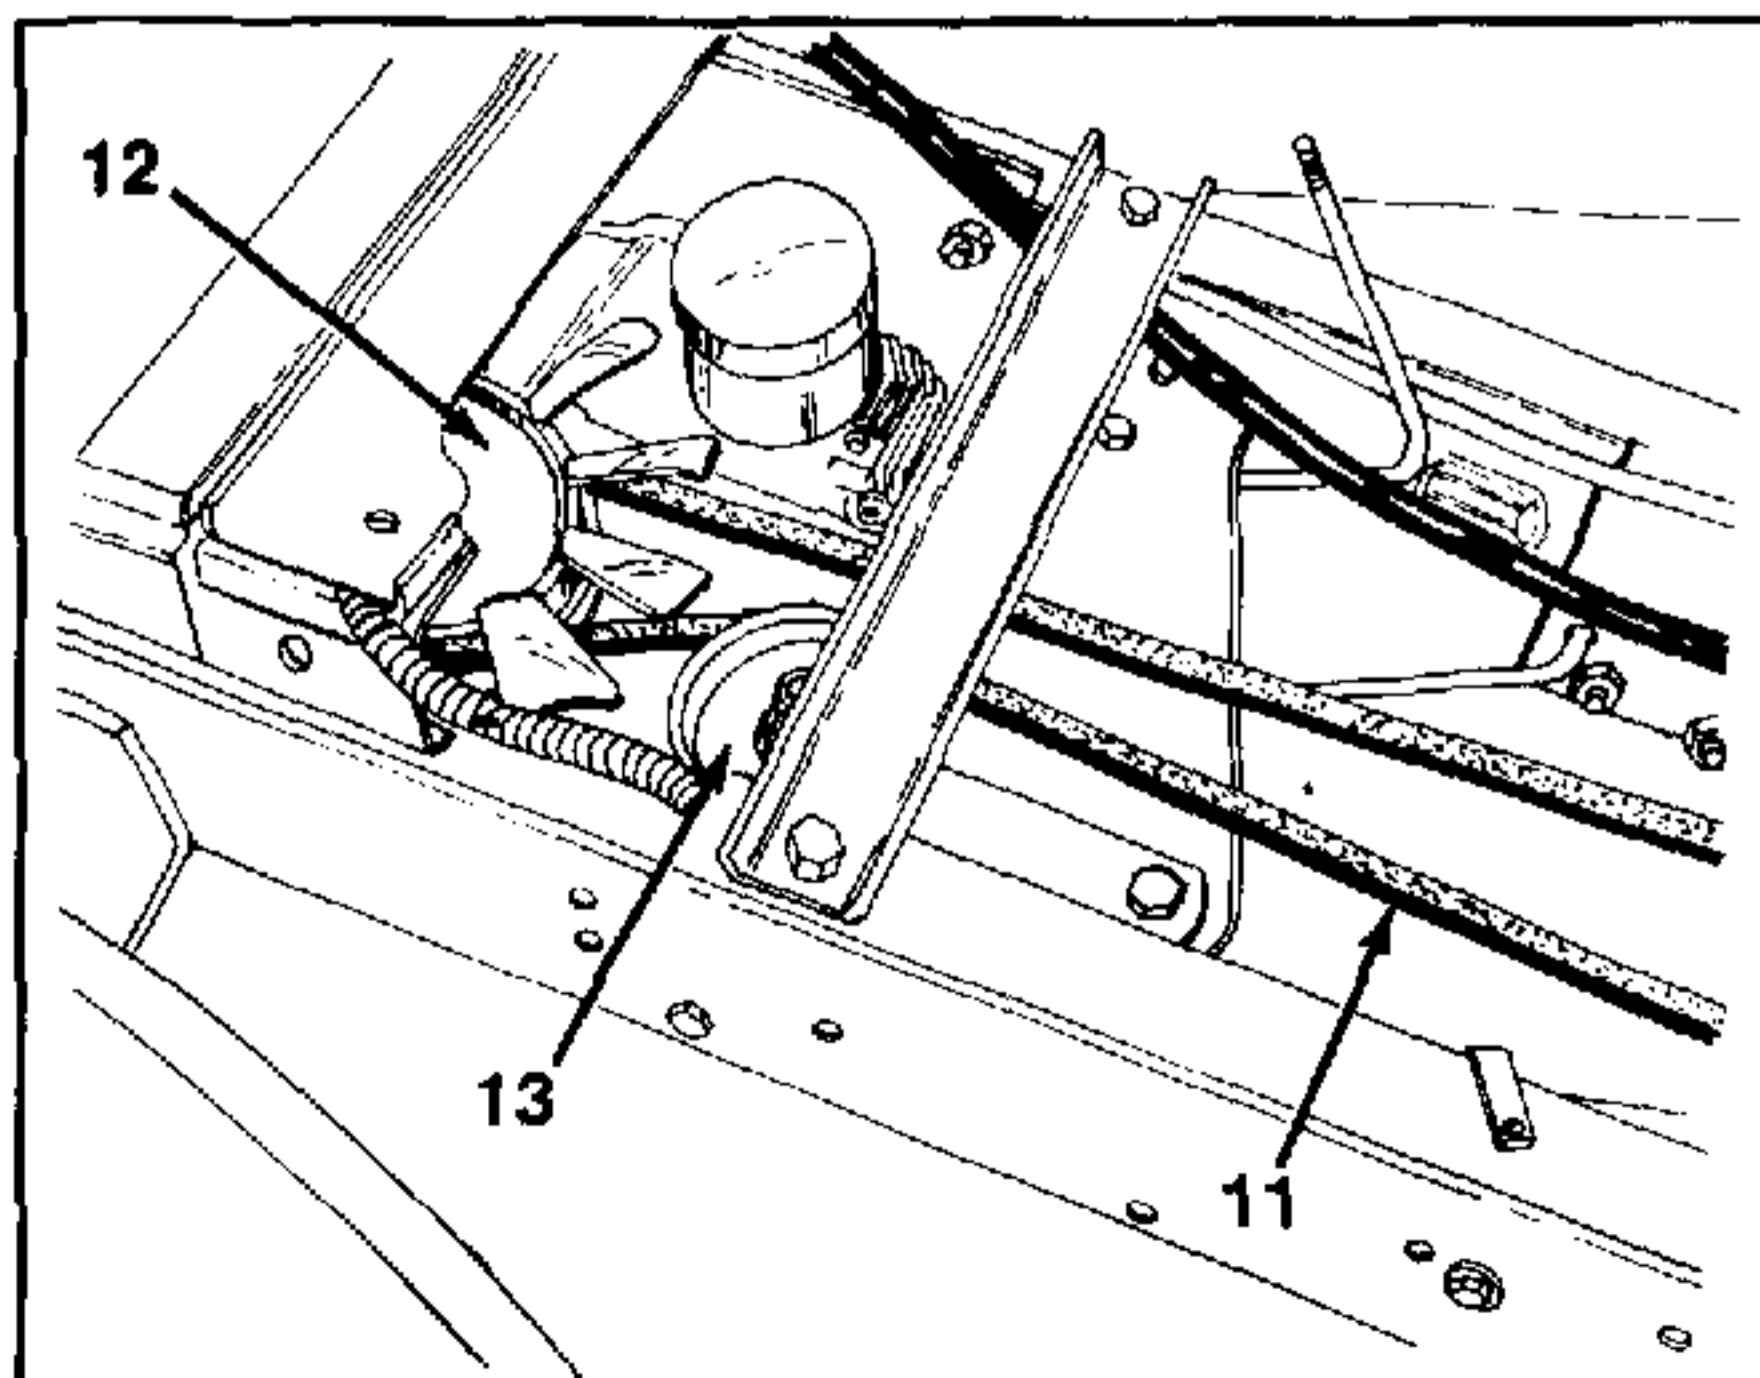

FIGURE 5.
3. Remove the fan assembly and slide the belt over the transaxle pulley and remove the idler. See figure 5. Then remove the belt.